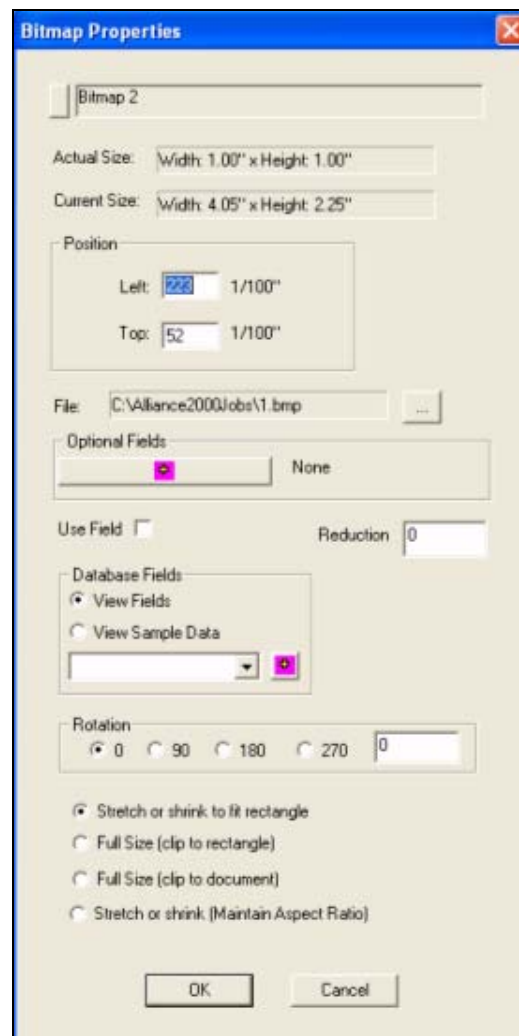

Figure 4-17: Bitmap Properties
- 5 Click the *Open* button and *Bitmap Properties* screen appears (see Figure 4-17 on page 4-15).